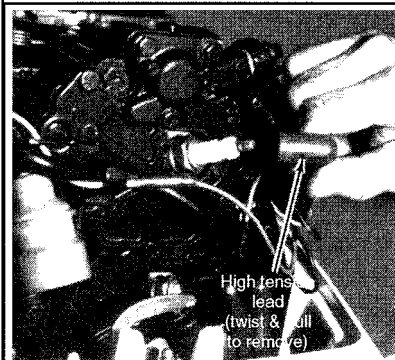

Fig. 19 Twist and disconnect the spark plug lead(s) from the spark plug(s) ...
- ◆ See Figures 19, 20, 21 and 22
- ◆ See Figures 19, 20, 21, 22 and 23